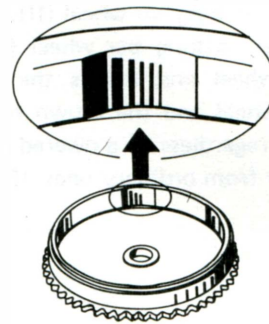

Fig. 6
- The barrel with vertical grooves has the following characteristics. (Fig. 6)